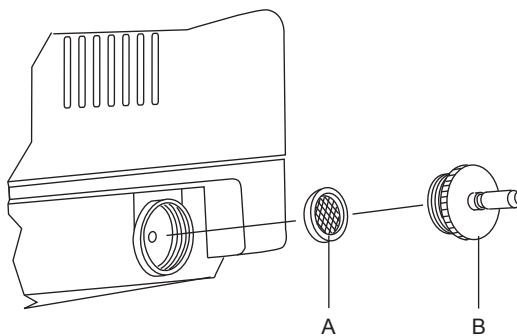

Fig. 9
- 2 Unscrew the male coupling's knurled ring nut (Fig.9 - Ref.B).
- 3 Extract the filter (Fig.9 - Ref.A), change it or wash it, removing all impurities from the filtering mesh.